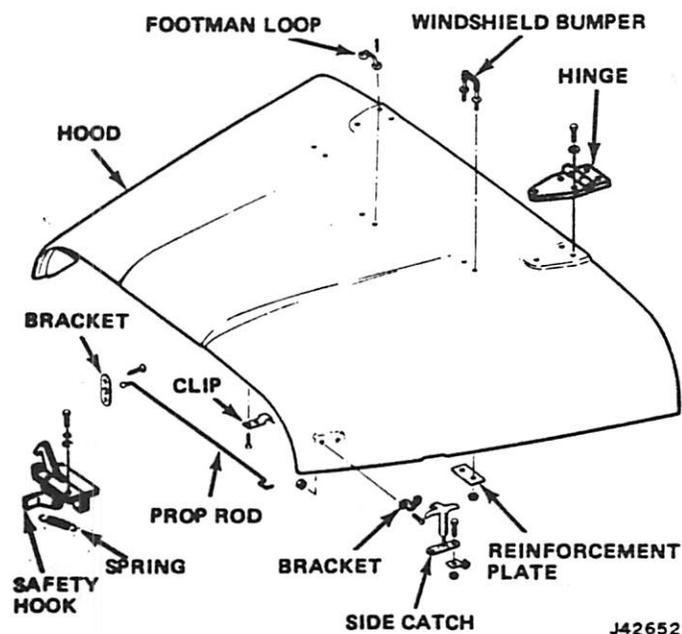

Fig. 3G-1 Hood and Related Parts—CJ and Scrambler Models
(1) Mark position of hinges on their respective mounting panels before removing hood.
(2) Detach hood panel from hinges by removing attaching screws, lock washers, and flat washers.
(3) Disassembly of CJ and Scrambler hood is accomplished by removing hood prop rod, hood prop rod retainer clip, hood side catch brackets, footman loop, and windshield bumpers (fig. 3G-1).
(2) Disconnect hood release cable from lock assembly and remove cable support bracket and lower cable.
(3) Remove tie straps from hood panel brace rod.
(4) Detach hood panel from hinges by removing attaching screws, lock washers, and flat washers.
(5) Disassembly of hood is accomplished by removing hood lever lock assembly, left and right hood panel brace rods, and insulation pad (Cherokee and Wagoneer) cemented to hood panel (fig. 3G-2).
- (1) Remove screws attaching inside release cable bracket to cowl side trim panel using Torx Bit Tool J-25359-C.
- (2) Raise hood.
- (3) Disconnect hood release cable from lock assembly and remove cable support bracket (fig. 3G-2).
- (4) Remove hood cable tie straps.
- (5) Remove cable and rubber grommet from dash panel and remove cable.
The hood bumpers on the Cherokee, Wagoneer and Truck models are adjustable. Rubber caps must be removed to adjust the bumper screws (fig. 3G-2).